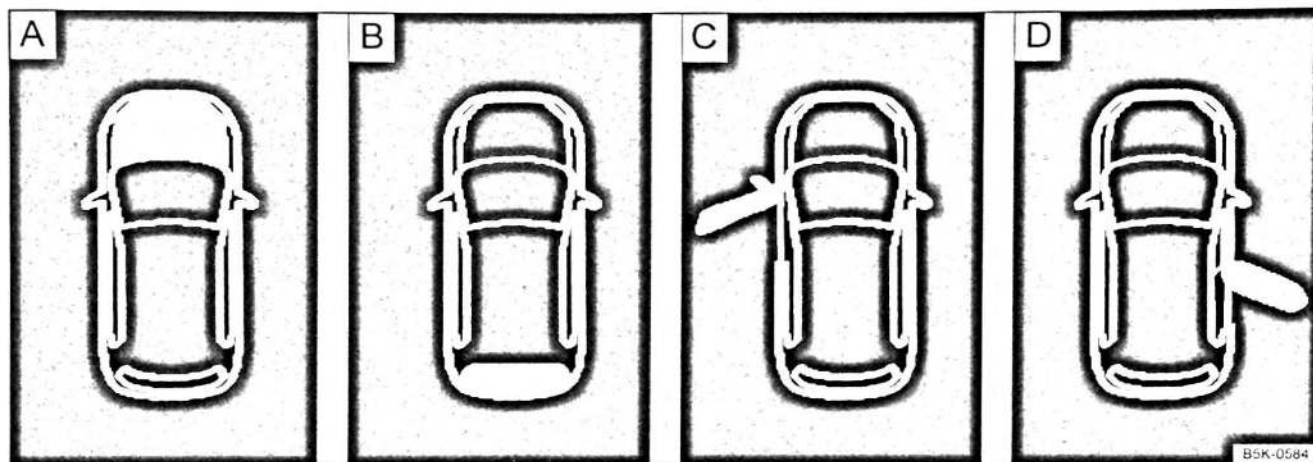

Fig. 13 A: bonnet open, B: tailgate open, C: front left door open, D: right rear door open (only in four-door vehicles)
- Open doors, bonnet and tailgate ⇒ Fig. 13